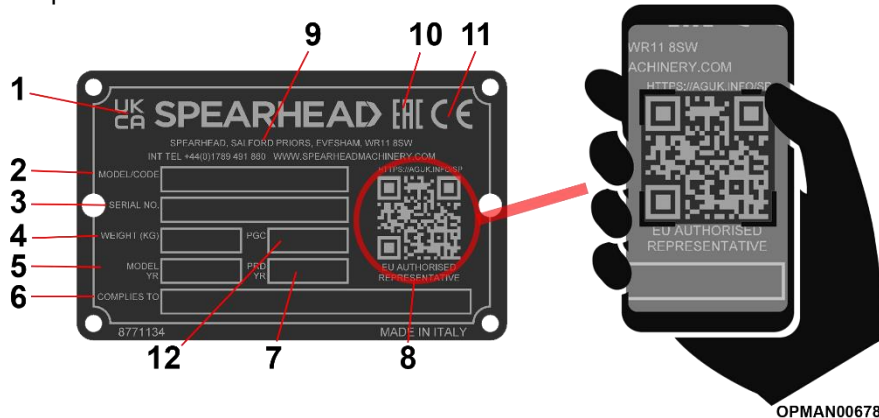

Figure 1.2 – Serial Plate
Each machine is equipped with a serial plate; see Figure 1.2 that includes the following data in this order:
By utilising a smart phone and scanning the Authorised Representative QR scan code found on the right-hand side of the serial plate (ref 8, Figure 1.2) using a suitable QR scanning App, you can find details for Spearhead Machinery authorised representatives for its various territories.